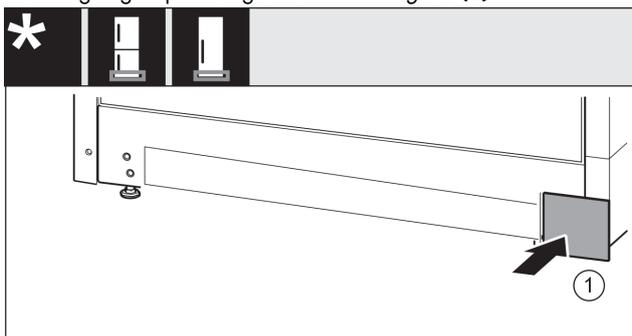

Fig. 16
- Put the cover back on the other side. Fig. 16 (1)